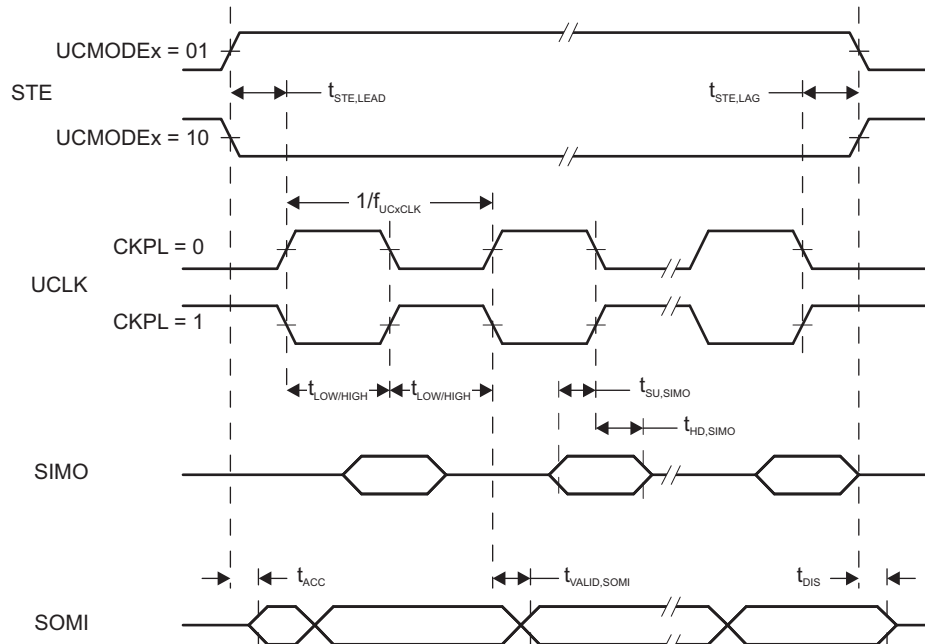
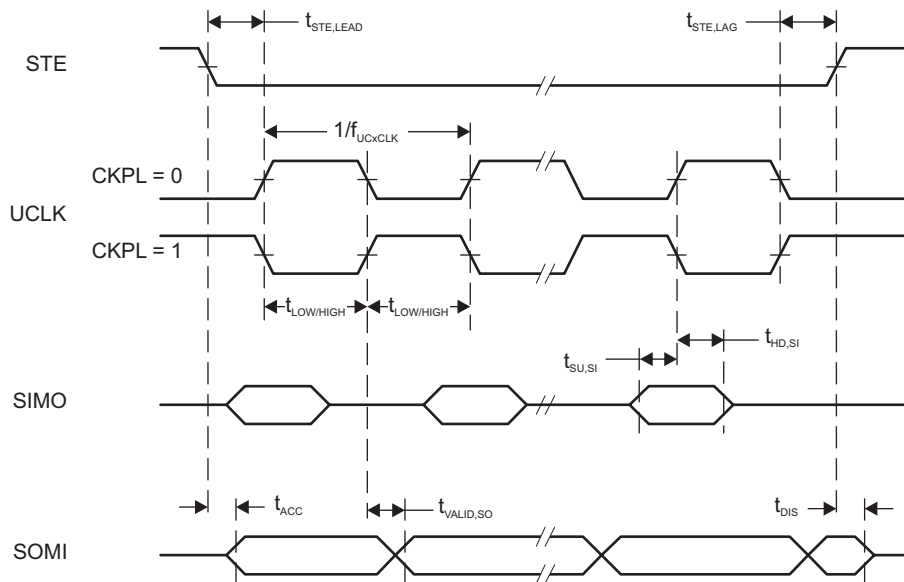

**Figure 5-13. SPI Slave Mode, CKPH = 0**
**Figure 5-14. SPI Slave Mode, CKPH = 1**
(2) Specifies the time to drive the next valid data to the SOMI output after the output changing UCLK clock edge. See the timing diagrams in Figure 5-13 and Figure 5-14.
(3) Specifies how long data on the SOMI output is valid after the output changing UCLK clock edge. See the timing diagrams in Figure 5-13 and Figure 5-14.